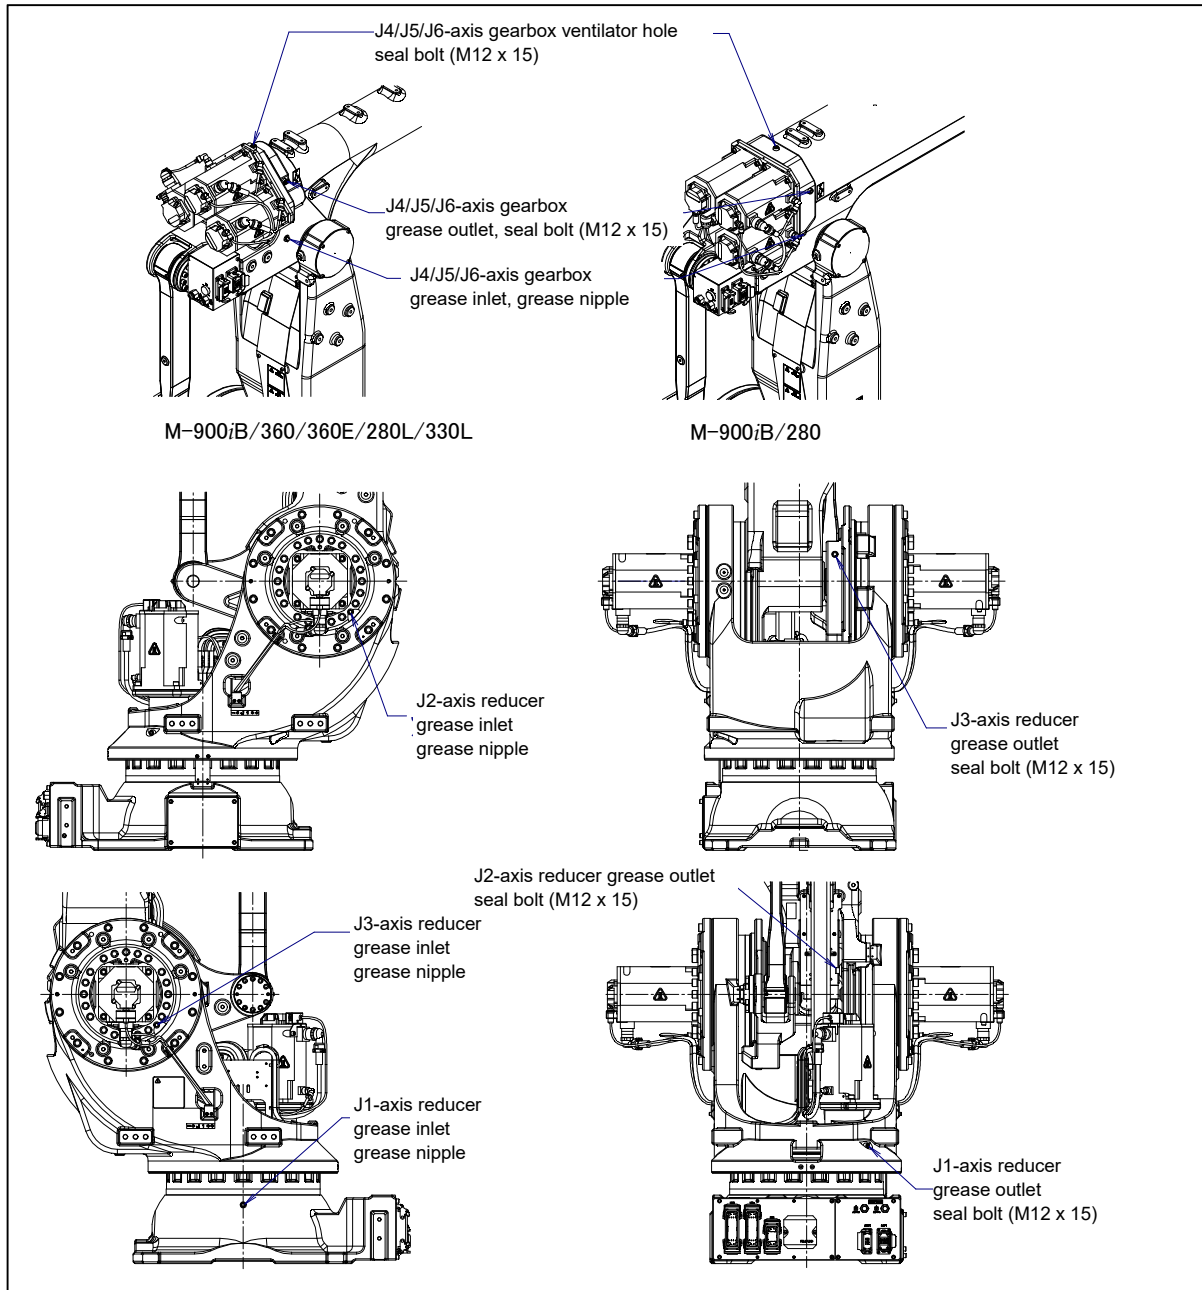

Fig. 7.3.3 (a) Replacing grease of the J1, J2, J3-axis reducer and the J4/J5/J6-axis gearbox
- 3 Remove the seal bolt from grease outlet and ventilator hole. (Fig. 7.3.3 (a))